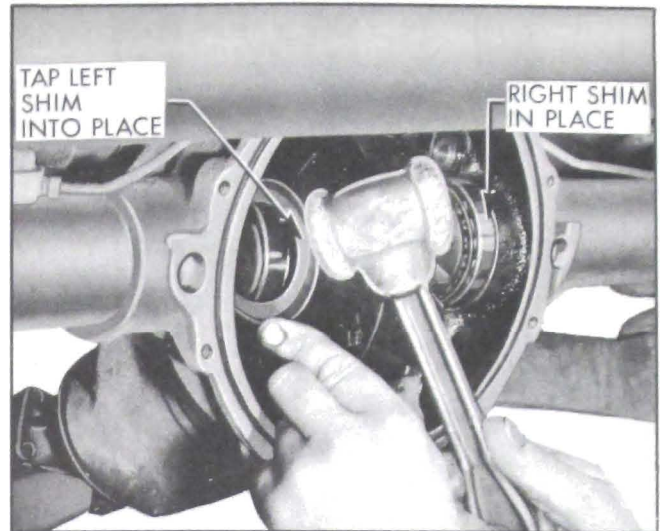

Figure 6-19—Installing Differential Adjusting Shim
left shim carefully into position using a soft hammer. See Figure 6-19.
1. Install differential case and bearing assembly. Slip right shim into position at right bearing, then drive left shim into position using a soft hammer. See Figure 6-19.